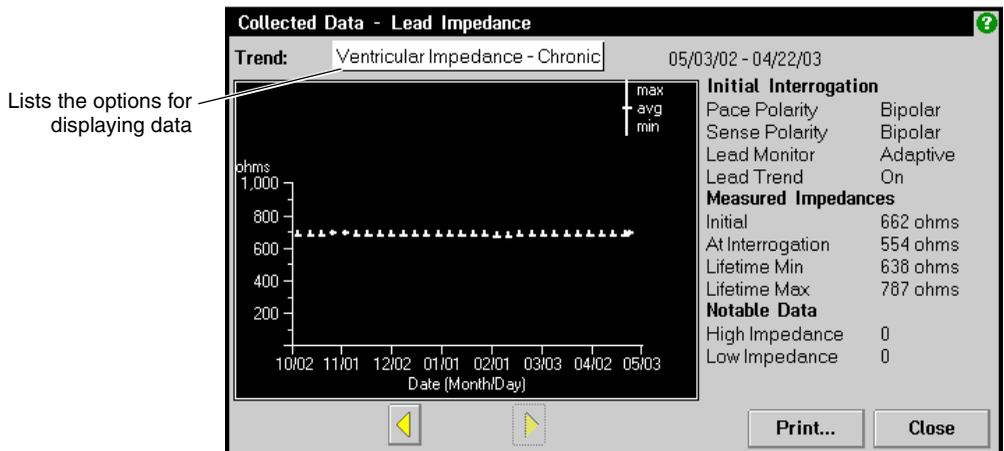

Figure 5-19. Chronic Lead Impedance Trend screen
- Chronic Lead Impedance Trend (see Figure 5-19).